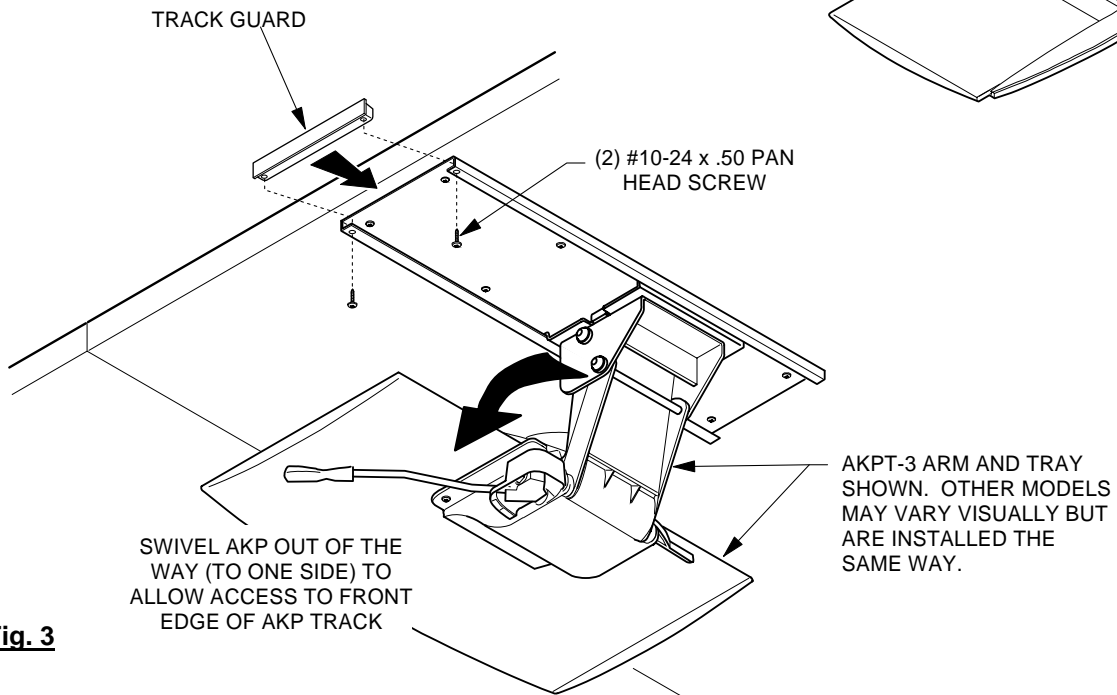

Fig. 3
3. Position track guard in front of track, and install with two (2) #10-24 x .50 type 23 self-tapping screws provided (**Fig. 3**).